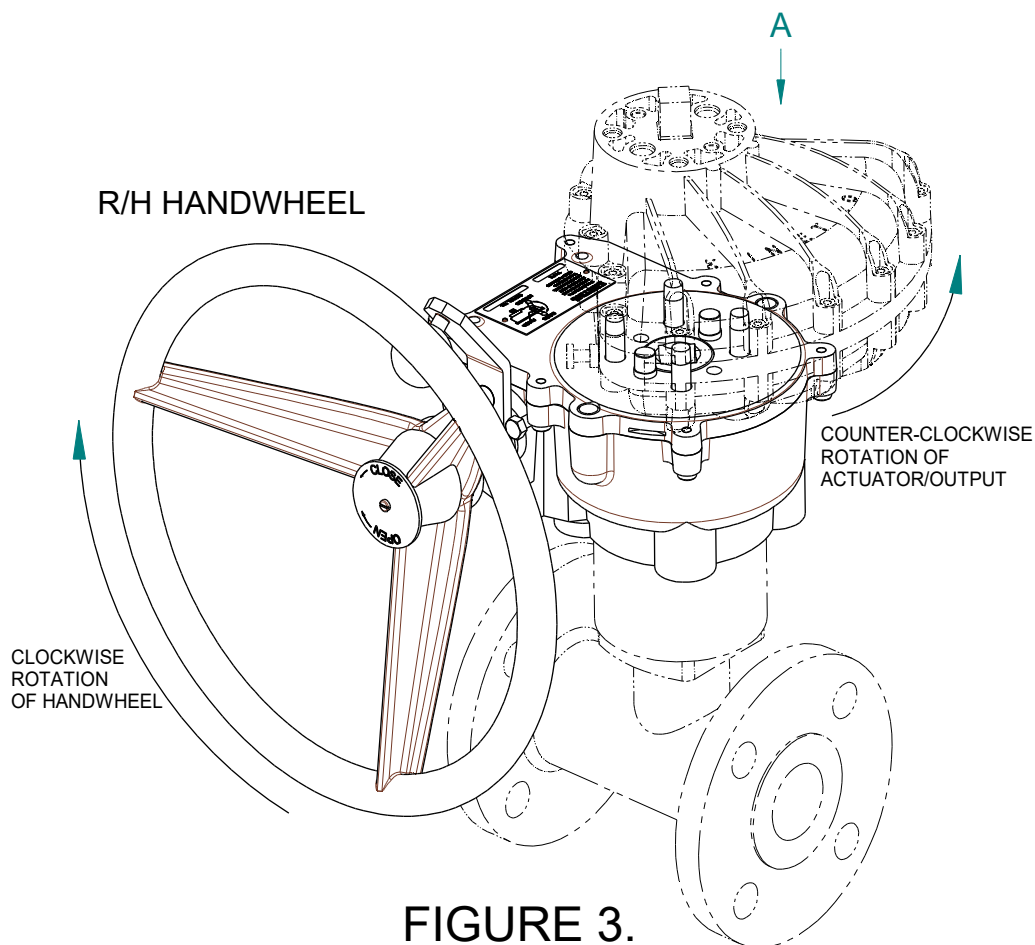

FIGURE 3.
**MANUAL OPERATION (using handwheel) :** To operate the assembly manually, the Declutch lever must be latched in the “Handwheel Engaged” position. When unit has “Right Hand” Handwheel (see Figure 3 below), clockwise rotation of handwheel produces counter-clockwise rotation of actuator/output when viewed from arrow “A”. When the handwheel is fitted to the “Left Hand” side, clockwise rotation of handwheel produces clockwise rotation of shaft when viewed from arrow “A”.